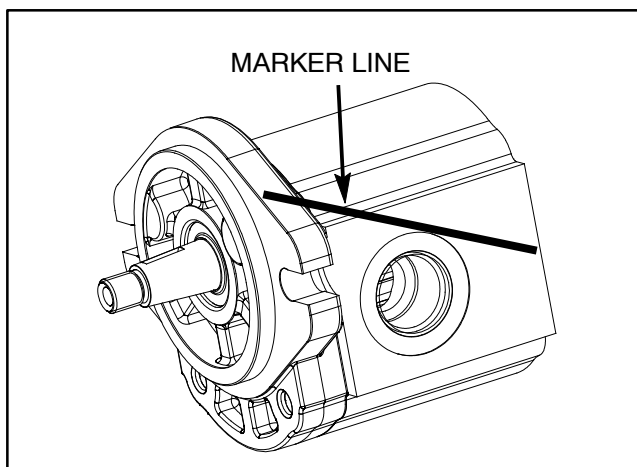

Figure 87
2. Use a marker to make a **diagonal** line across the front flange and body for assembly purposes (Fig. 87).